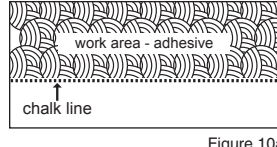

Figure 10a
(Figure 10a-10d)
- Be sure not to spread adhesive too far ahead of your work area (Figure 10a).